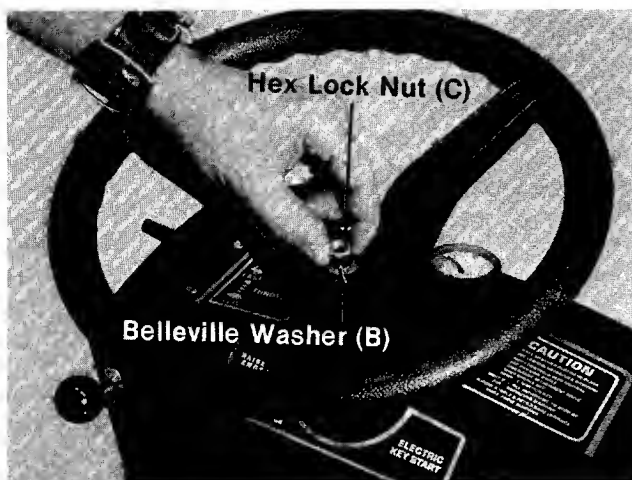

FIGURE 13.
1. Place the steering wheel over the steering shaft. See figure 13.
2. Secure with the belleville washer (B) and the 5/16" hex lock nut (C). See figure 13.